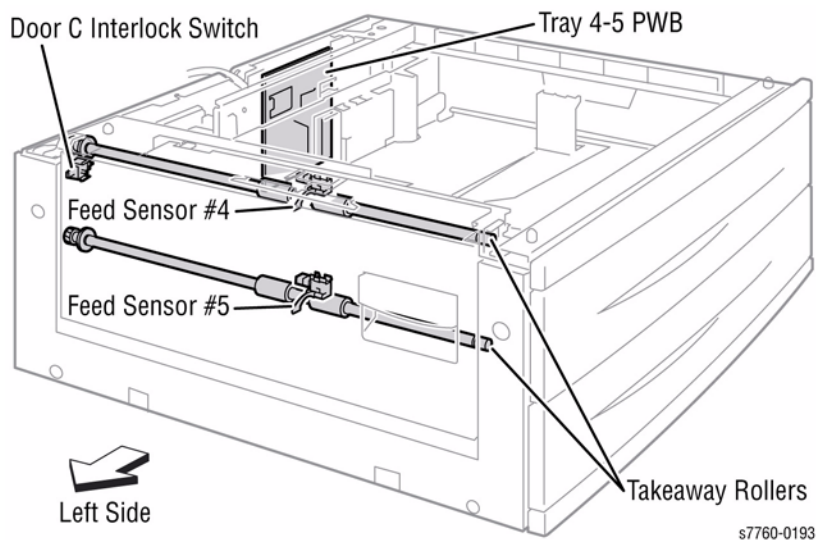

Figure 12 Feedout Sensors
- **Feed Out Sensor #4:** This Sensor, located on the upper Chute in front of the Tray 4 Feeder, uses an Actuator to determine whether the paper has moved into the printer from the tray (Figure 12).
- **Feed Out Sensor #5:** This Sensor, located on the upper Chute in front of the Tray 5 Feeder, uses an Actuator to determine whether the paper has moved into the printer from the tray (Figure 12).